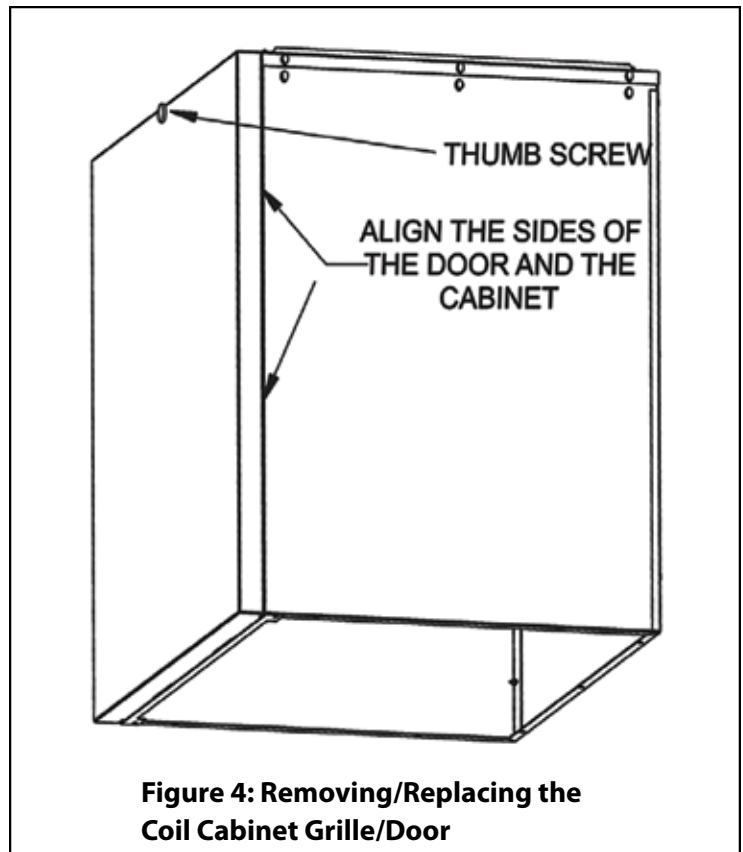

Figure 4: Removing/Replacing the Coil Cabinet Grille/Door
2. Remove the thumb screw at the top center of the louvered grille by turning it counter-clockwise (See Figure 4).
9. Push the top of the grille forward until it is aligned with the cabinet top flange and side flanges (See Figure 4). Reinstall the thumb screw to secure the grille to the coil cabinet.
8. Push the top of the coil cabinet door forward until it is aligned with the cabinet top flange and side flanges (See Figure 4). Reinstall the thumb screw to secure the door to the coil cabinet.